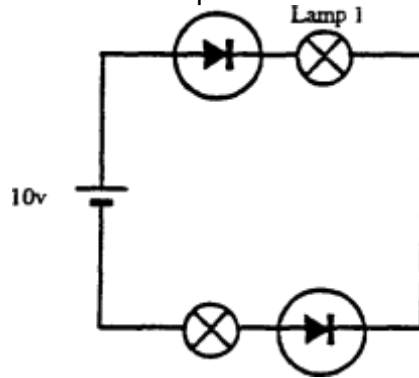

Figure 15.
1. In Figure 15 the condition of the lamps is: